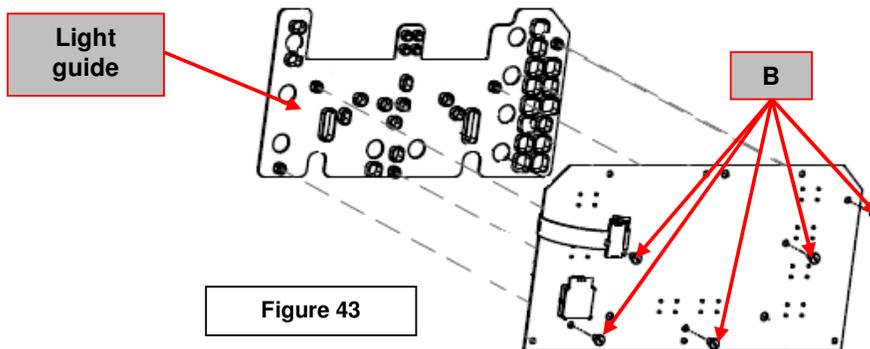

Figure 43
9. Using a slot head screwdriver carefully remove the 5 plastic screws (**B**) that fix the light guide to the User Interface board. See **Figure 43**